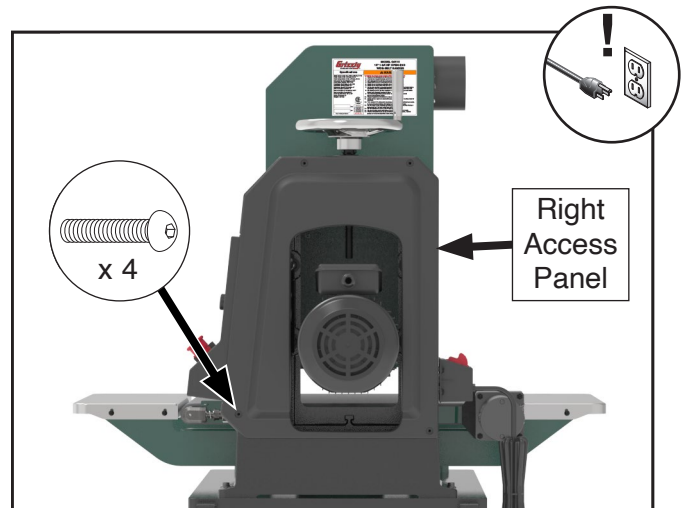

Figure 36. Location of right access panel and fasteners.
2. Remove (4) M6-1 x 8 button head cap screws from right access panel and set panel aside (see Figure 36).